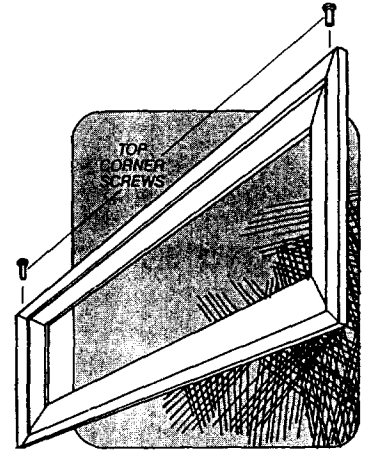

Figure 21
**B)** Remove the top two corner screws and pull away the top frame. See Figure 21.